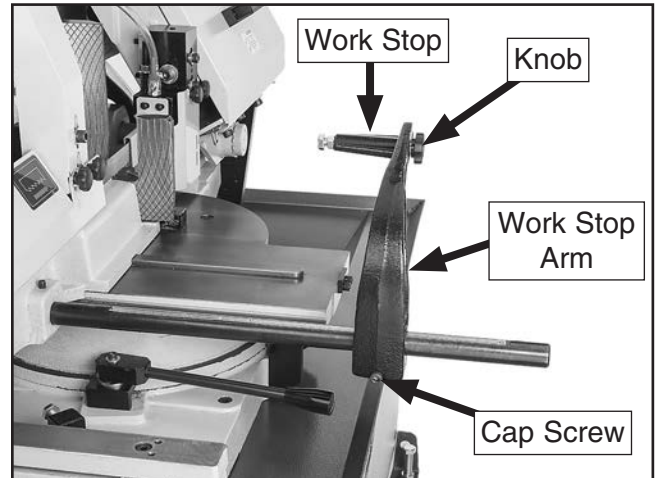

Figure 16. Work stop attached to work stop arm.
3. Slide work stop arm onto stop rod, position it as necessary, then tighten cap screw (see **Figure 16**).
4. Insert work stop into arm and secure with knob (see **Figure 16**).